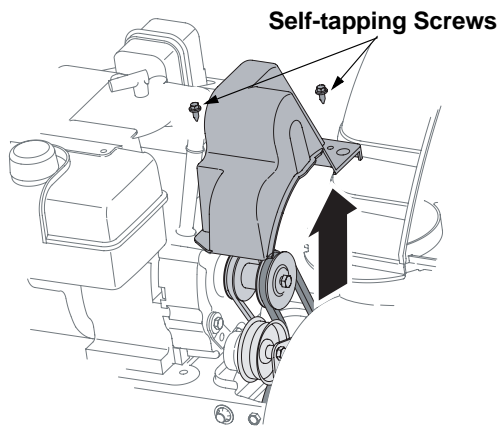

Figure 22
- Remove belt cover by removing the two self-tapping screws that secure it to the snow thrower housing. See Figure 22.
- Remove belt cover by removing the two self-tapping screws that secure it to the snow thrower frame. See Figure 22.